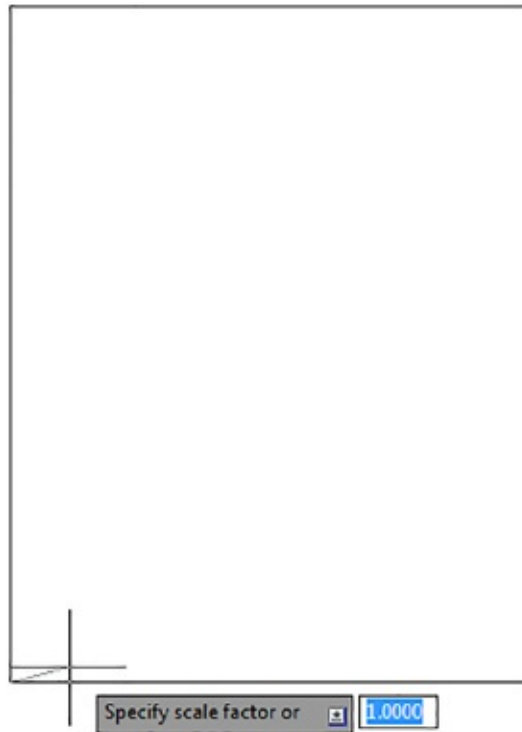

FIGURE 13.10 Manually scaling the PDF image
10. At the Specify scale factor or [Unit] <1.0000>: prompt, use the cursor to scale the image so that it fills the screen (see Figure 13.10). Page 2 of the SampleImport.pdf file appears in the drawing.